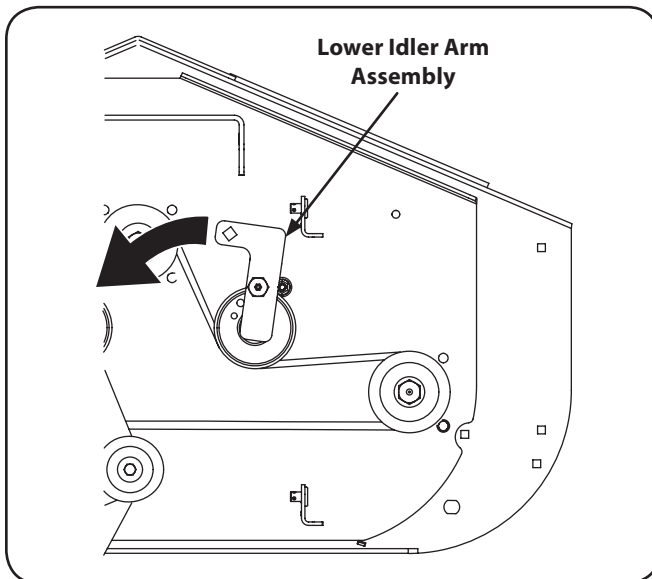

Figure 1-4
- Using a  $\frac{3}{8}$ " socket breaker bar or socket ratchet insert the drive end into the  $\frac{3}{8}$ " square opening in the lower idler arm assembly and push the idler arm counterclockwise. See Figure 1-4. While holding the idler arm back, loosen the deck belt from the pulley and slide the belt away from the pulley.